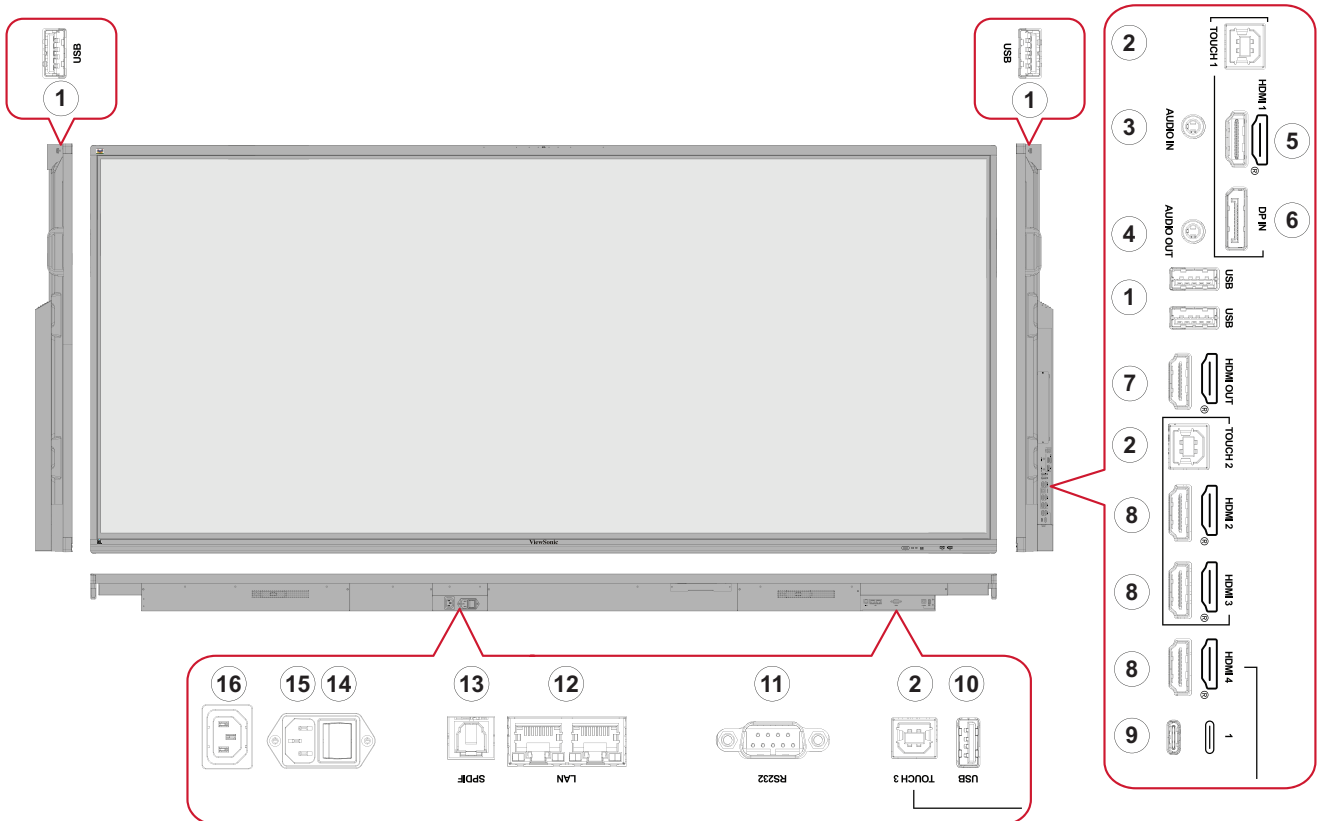

Figure 1
- **Figure 1** - There are two, a numbered (1 2) and unnumbered (≡), versions of the USB Type C port icon label on the Control Panel and I/O for this product line. Both versions' USB Type C ports function the same.